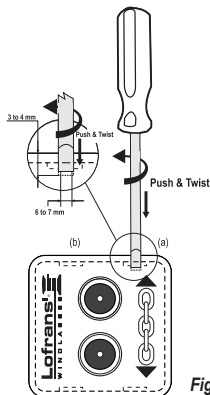

Fig.5
- To remove the clip-on cover, slide a flat headed screwdriver, with 6-7 mm wide tip, between the clip-on cover and the dashboard at position (a) and then position (b) and twist the tip slightly. Push in the tip of the screwdriver at least 3 to 4 mm before twisting it. (see Fig.5)